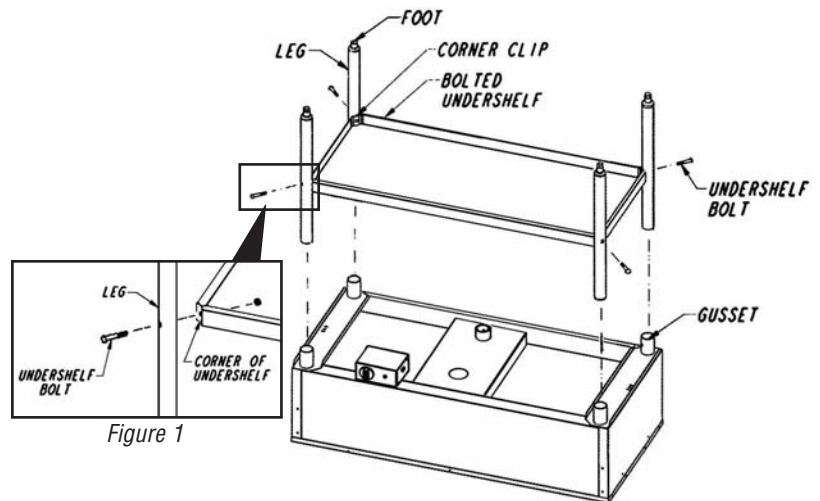

Figure 1
3. Mount undershell to legs by inserting bolt thru hole in leg and thru hole in corner of undershell, and tighten with hex nut (see *Figure 1*).
4. Tighten set screws in undershelf gussets to secure undershelf (see *Figure 1*) and install feet into legs, using a rubber mallet.